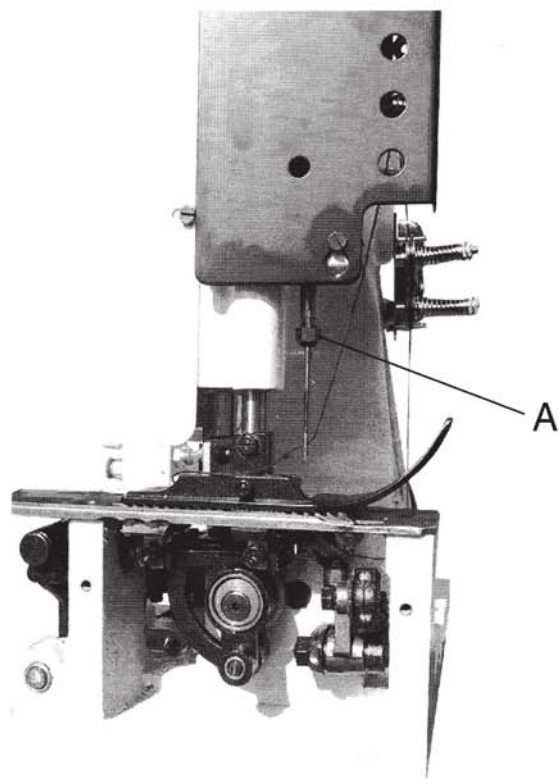

图 3 Fig.3
机针是易损零件，当针眼明显磨损，针尖磨钝或弯曲时，应更换新针。换针时，旋转皮帶轮使针杆上升到最高点，用扳手拧松螺母（图3，A）换上新针，针柄必须插入针杆孔到底，针眼的凹形面须朝缝料前进方向；再紧固螺母。
Removethe needle plate. Rotate the machine pulley in operating direction until the looper moving to the left. When the looper point projects 1-1.5mm(.040 to .060in.)left of the needle, lower ednge of looper and upper edge of needle eye must be flush in this position (Flig.7) For adjustment, loosen clarmp screw(B, Fig.3) in the needle bar up or down as required. Retighten screw (B) and remout needle lplate.